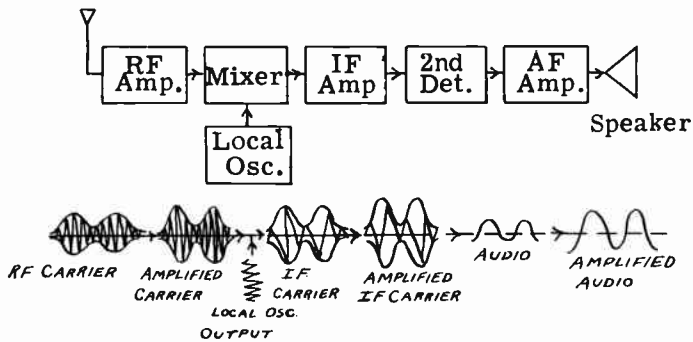

FIG. 15-9. BLOCK DIAGRAM OF A SUPERHETERODYNE RECEIVER.
**THE SUPERHETERODYNE RECEIVER.** Fig. 15-9 shows the block diagram of a typical superheterodyne receiver. The graphical form of the signal passing through the receiver is also shown. We will now study the operation of the superheterodyne receiver by following the signal through its stages.